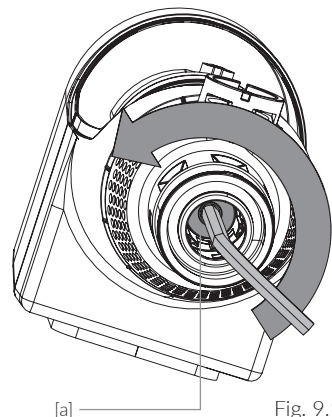

Fig. 9.1
- / Fig. 9.1: Loosen the reducing sleeve [d] from the underside with a hexagon socket spanner in direction of arrow
The **CLEAR** PRO RD domestic water unit and also the **CLEAR** PRO R backwash filter are designed in such a way that the filter element can be cleaned or replaced after disassembly (according to chapter 9.1 Maintenance of pressure reducer, Fig. 9.1 to 9.4).